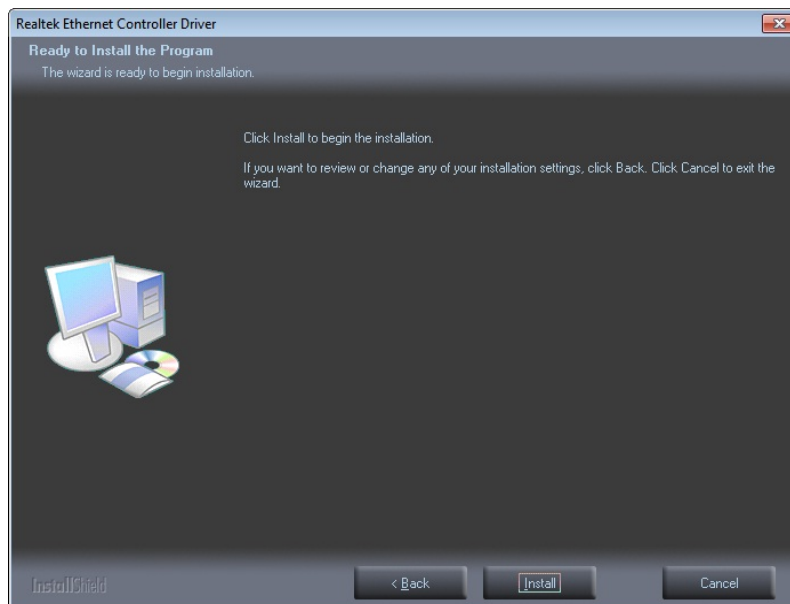

Figure 6-12: LAN Driver Installation
Step 6: The **Ready to Install** screen in **Figure 6-12** appears.